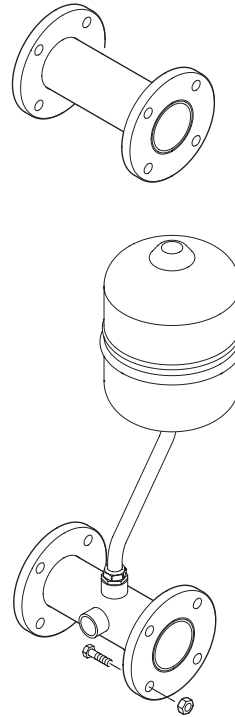

Fig. 6
1.9 LOW LOSS HEADER CONNECTION KIT (fig. 6)